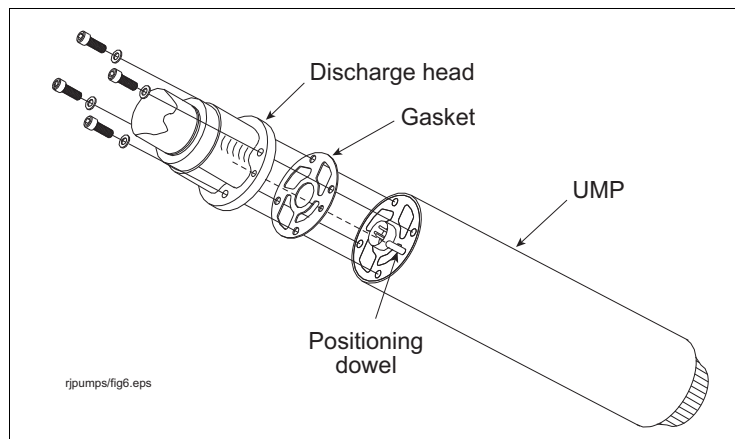

Figure 8. Aligning the UMP gasket
2. Place the new gasket on the new UMP so that all holes align (see Figure 8).
4. Install the UMP retaining bolts and lock washers (see Figure 8). Snug and then torque the bolts using a cross pattern. Torque to 7 ft-lbs (11 N•m).